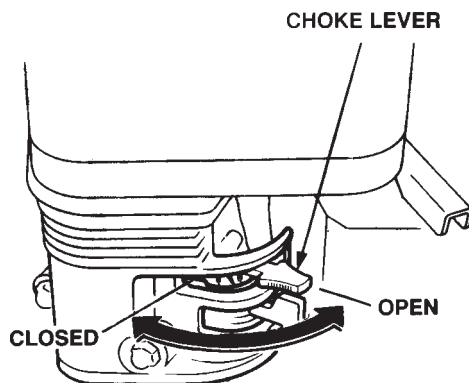

Figure 12. Choke Lever
3. Place the **Choke Lever** (Figure 12) in the "OPEN" position.
6. If the engine has started, slowly return the choke lever (Figure 12) to the **CLOSED** position. If the engine has not started, repeat steps 1 through 5.